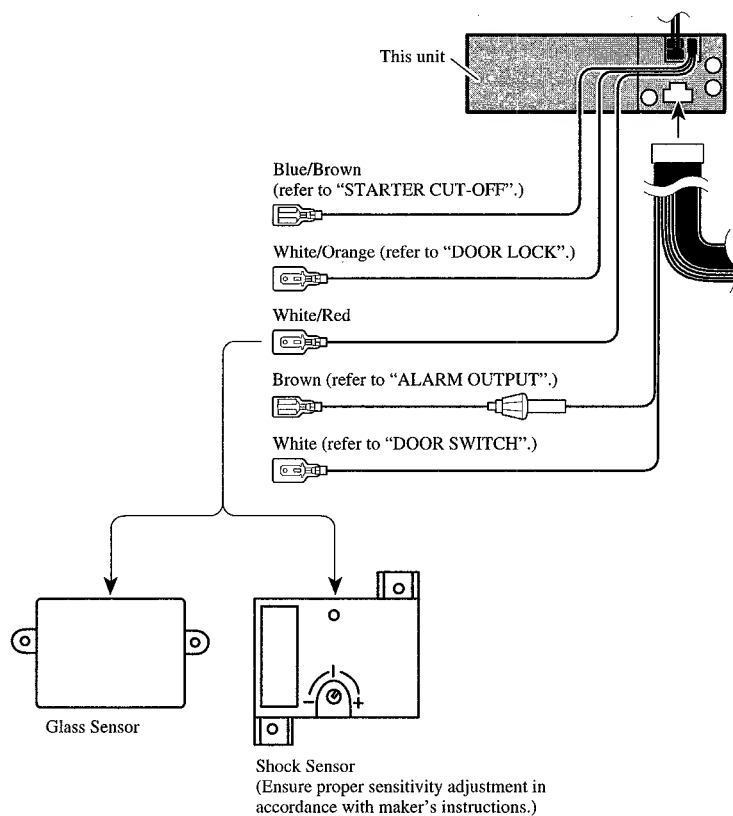

Fig. 34
■ White/Red (ALARM SENSOR) (Fig. 34)